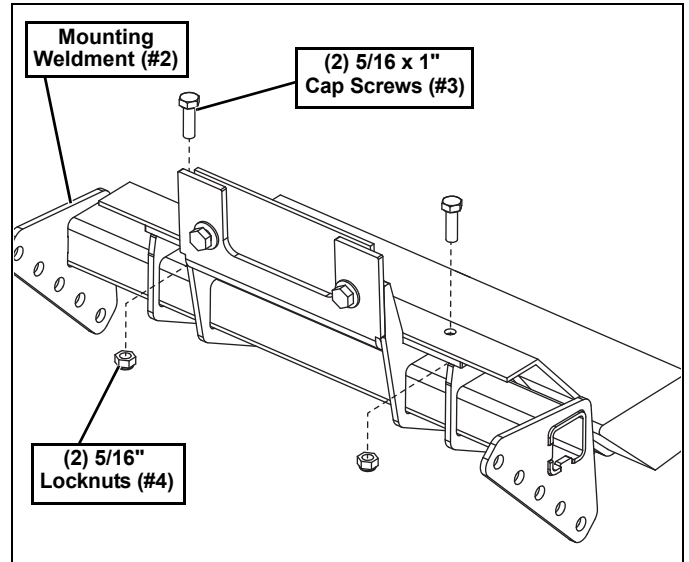

Figure 5
7. Secure the two remaining top holes in the frame and item #2 with (2) 5/16-18 x 1" Cap Screws (#3) and (2) 5/16"-18 Locknuts (#4). (See Figure 5.)